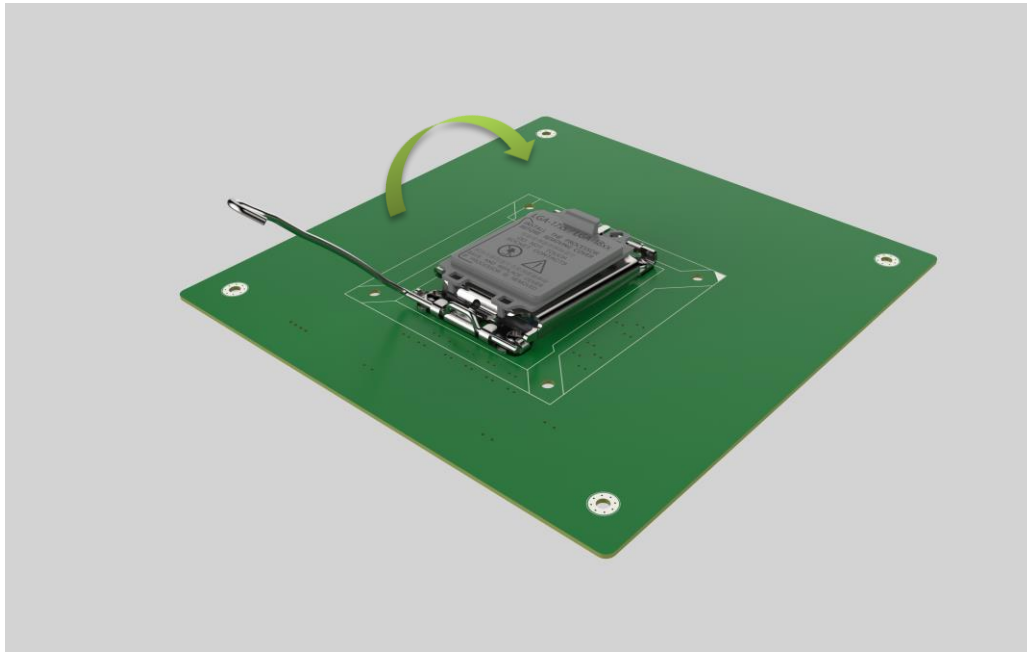

Figure 3-6: Close the Socket AM5
Step 8: Close the CPU socket. Close the load plate and pull the load lever back a little to have the load plate be able to secure to the knob. Engage the load lever by pushing it back to its original position (**Figure 3-6**). There will be some resistance, but will not require extreme pressure.